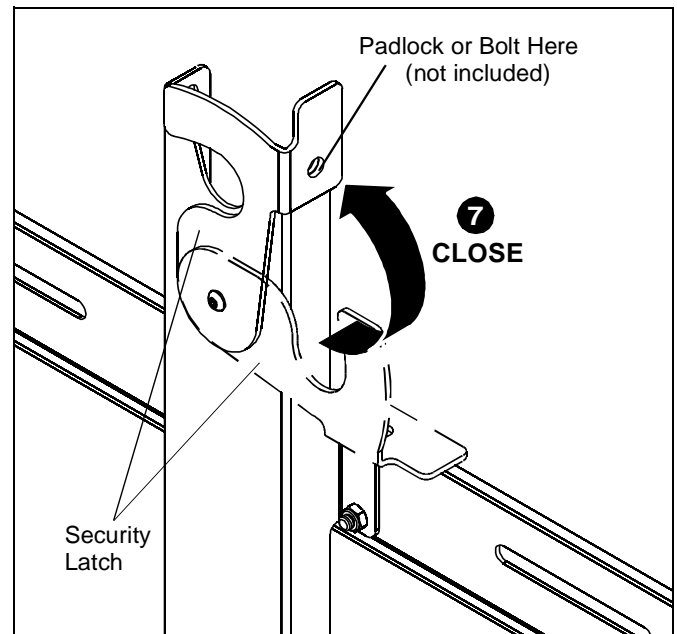

Figure 8
7. Move two security latches to Closed position and lock if desired. (See Figure 8)